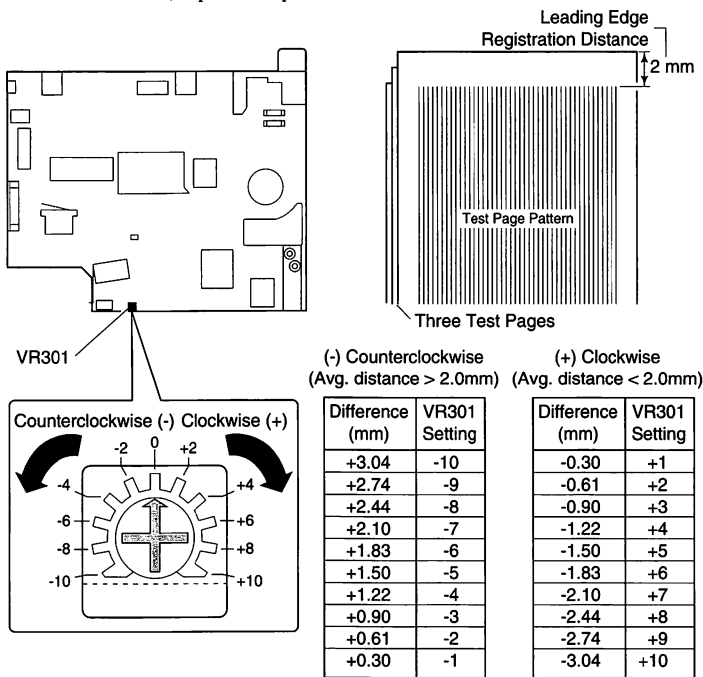

Figure 57. Determining the Proper VR301 Setting
You must adjust the printer registration whenever you replace the controller assembly. The optimum registration is 2 mm, as shown in Figure 57.
1. Using a jeweler's screwdriver, reset VR301 on the controller assembly to "0" (see Figure 57).
6. Adjust VR301 so that the average value becomes 2.0 mm. For example, if your average distance is 2.6 mm, the difference is 0.6 mm and you should set VR301 to a setting of -2 (see Figure 57).